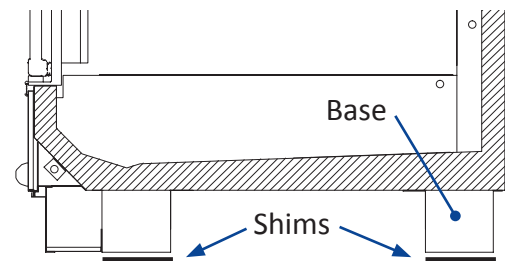

Fig 2. Leveling
- Once the base is properly placed on the shims, check the vertical plumb of the case by placing a bubble level on the rear wall. Add/remove shims as needed. For the horizontal level, repeat this process after placing the bubble level on the front. (Fig. 2)